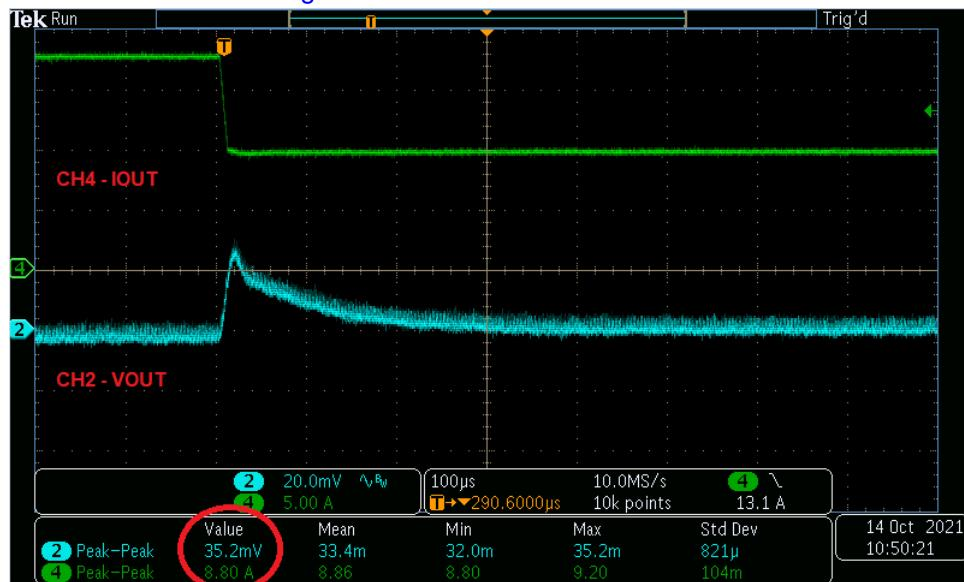

Figure 4-5. Transient Response to Load Step 18 A to 9 A at 1 A/ μ s
3. Change the trigger on CH4 to falling edge to capture the transient response of VOUT to negative current step from 18 A to 9 A as shown in Figure 4-5.